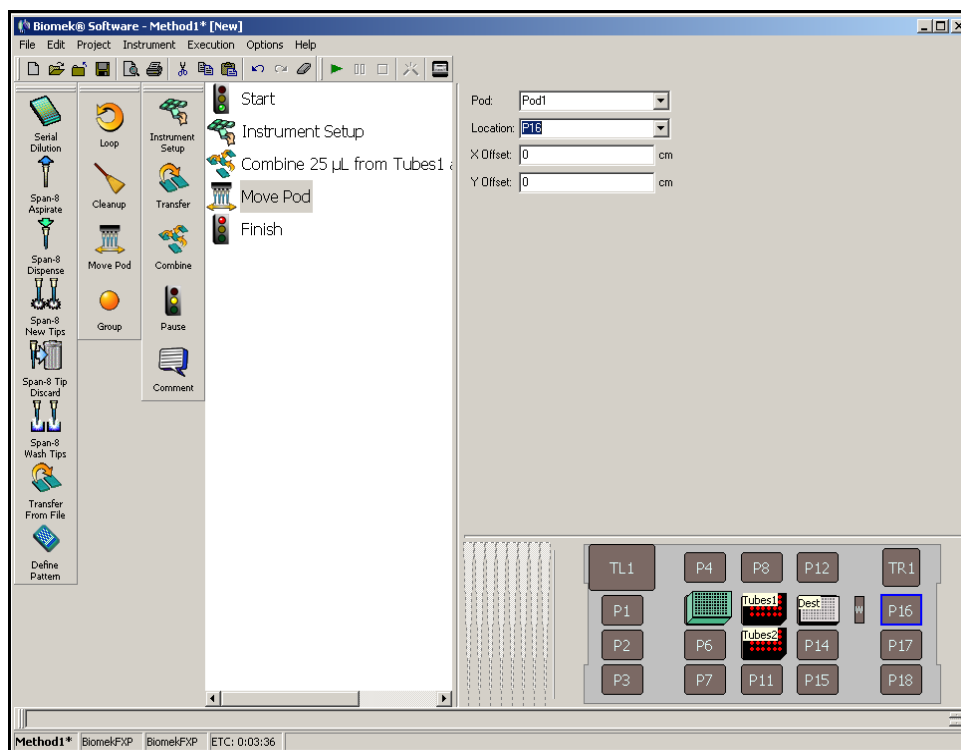

Figure 6-8. Configured Move Pod step
2. From the **Location** drop-down menu, choose **P16**. This instructs the pod to move and stop over the **P16** position (Figure 6-8).